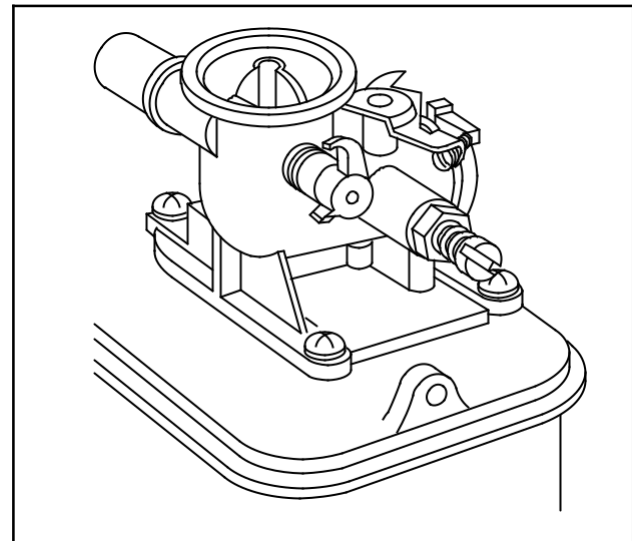

Fig. 41
3. Choke shaft lever should be as shown in Fig. 41.